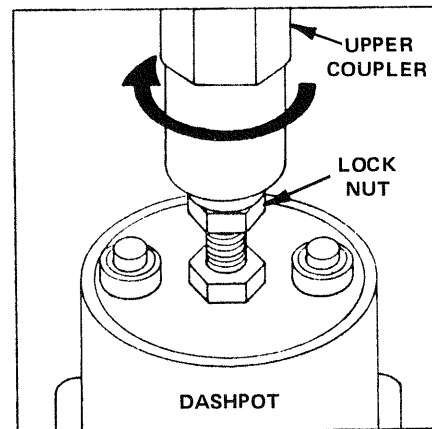

FIGURE 9-36 Upper Coupler Adjustment.
- A. If the Hammer Rail begins lifting as soon as the SOFT Pedal is depressed, loosen the Lock Nut under the Upper Coupler, turn the Coupler approximately 1/8 of a turn CLOCKWISE then press the Pedal again and check for the slight bit of motion - readjust the Coupler, if necessary, until the 1/32" of is achieved. Tighten the Lock Nut until it is finger tight. See FIGURE 9-36, and the CAUTION below: